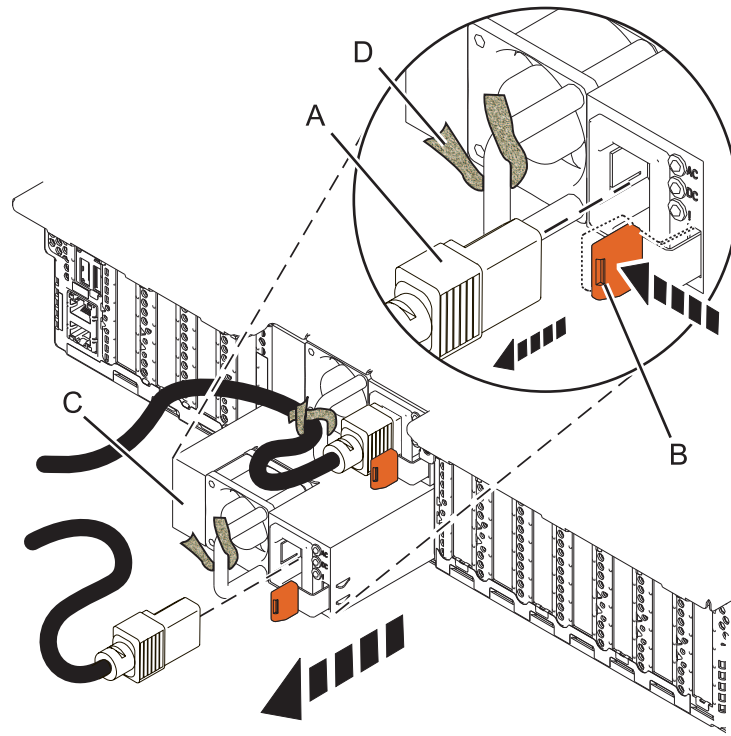

Figure 10. Removing a power supply from the system
3. Label and disconnect the power cord from the power supply by pulling the end of the power cord **(A)** out of the power supply in the direction that is shown in Figure 10 on page 13.
4. To unseat the power supply from its position in the system, push the terracotta locking-tab **(B)** in the direction shown in Figure 10 on page 13.
5. To release the power cord that is strapped to the handle, unstrap the hook-and-loop fastener (D) and then pull the power cord away from the power supply (C). Ensure to retain the hook-and-loop fastener (D) on the power cord.
6. Pull the power supply (C) away from the system, as shown in Figure 10.